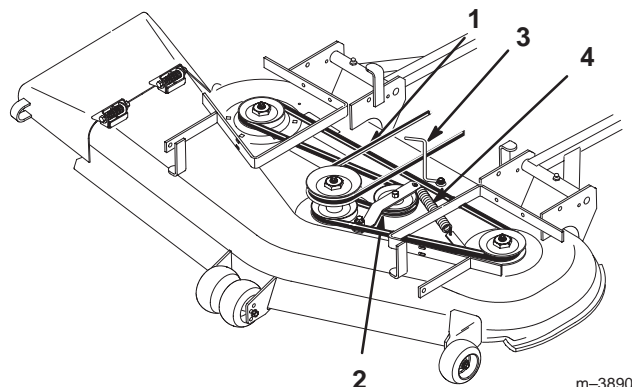

Figure 51
3. Remove idler spring from idler arm, then remove the worn deck belt (Fig. 51).
4. Install the new deck belt around the spindle pulleys, belt guide, the idler pulley, and in the lower groove of the center spindle pulley (Fig. 51).